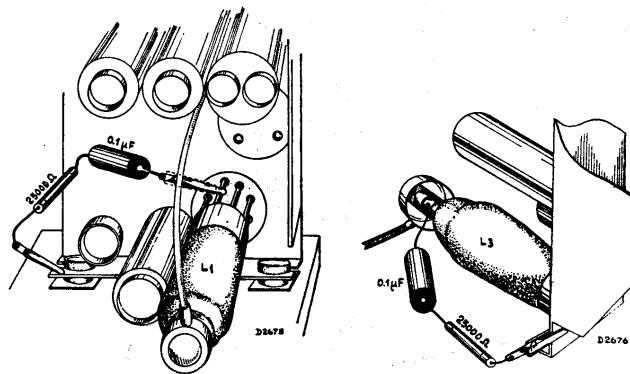

Fig. 3.
6. De-tune the first I.F. circuit by connecting 25,000 ohms and 0.1  $\mu$ F between the anode of L1 and chassis. (Fig. 3.)
8. Remove condenser from first I.F. circuit and de-tune the second I.F. circuit by means of 25,000 ohms and 0.1  $\mu$ F connected between control grid of L3 and chassis. (Fig. 3.)
3. Detune first I.F. circuit by connecting 25,000 ohms + 0.1  $\mu$ F between anode L1 and chassis. (Fig. 3.)
- III. Apply modulated I.F. signal (via 32,000  $\mu\mu\text{F}$ ) (Fig. 3) to grid 1 of L1.